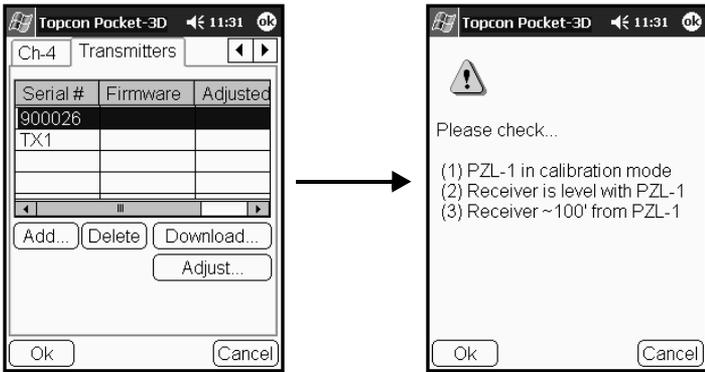

Figure 4-6. Begin Field Calibration Adjustment
5. In Pocket-3D, tap **Setup** ▶ **LaserZone transmitters** and tap the **Transmitters** tab (Figure 4-6 on page 4-7).
6. Press **Adjust** (Figure 4-6).
If indicated, check the setup listed on-screen (Figure 4-6).